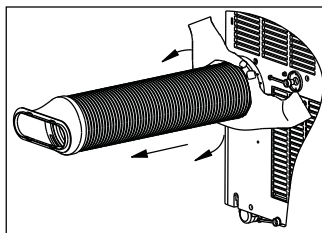

Fig.24
- Unscrew the exhaust hose from the unit and pull out when uninstalling (Fig.24).